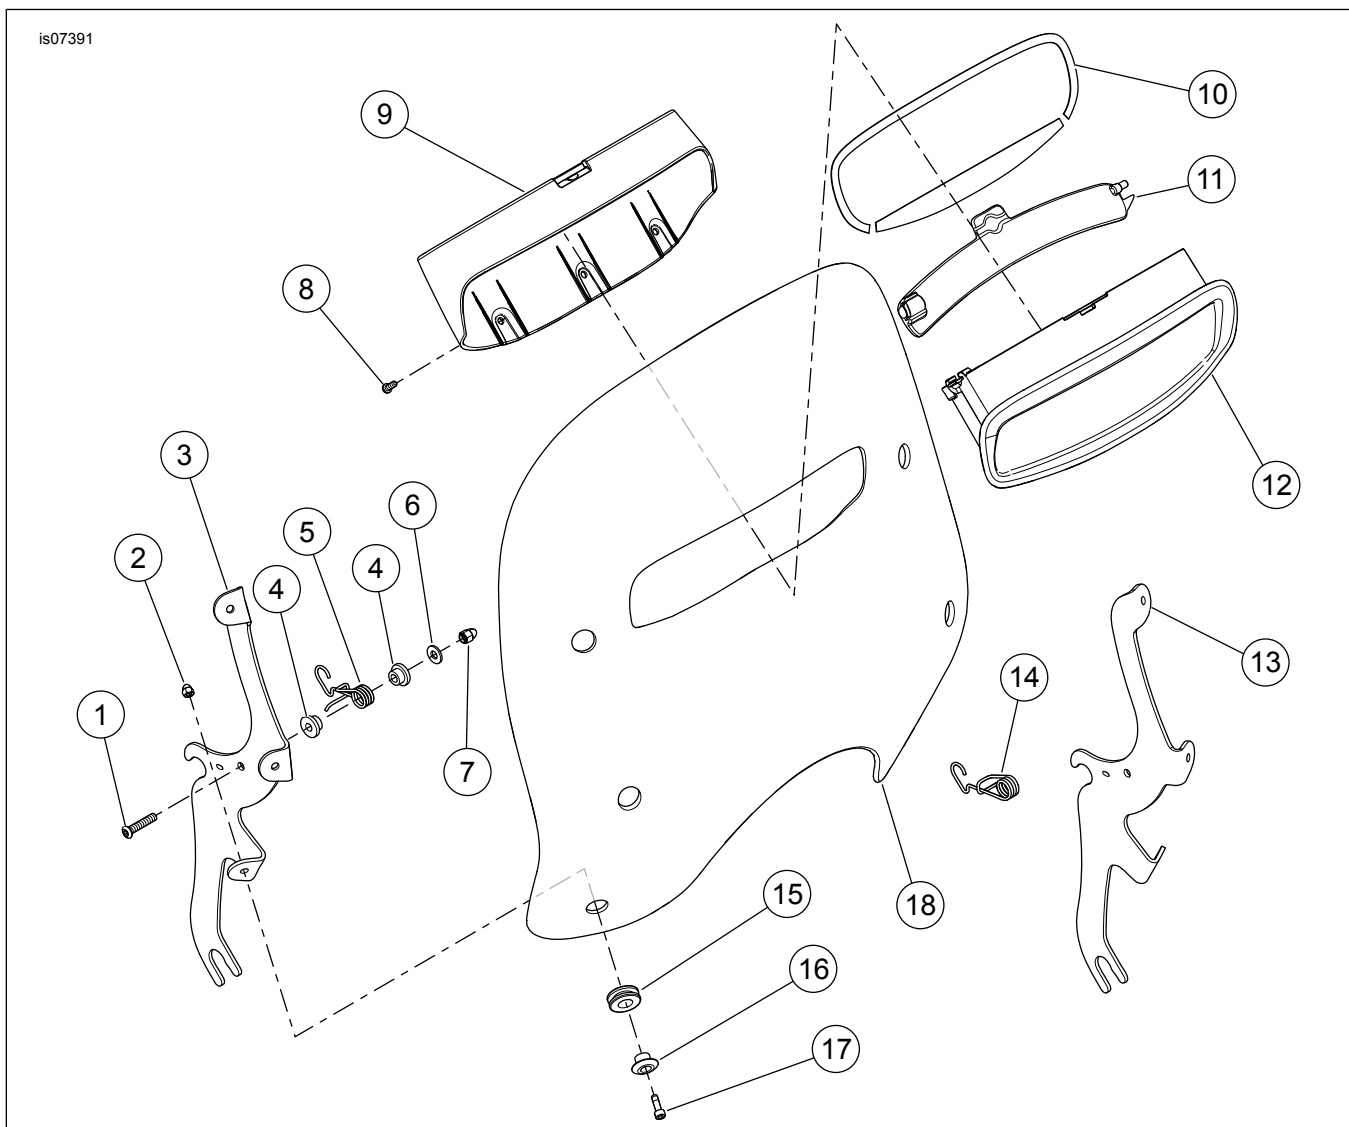
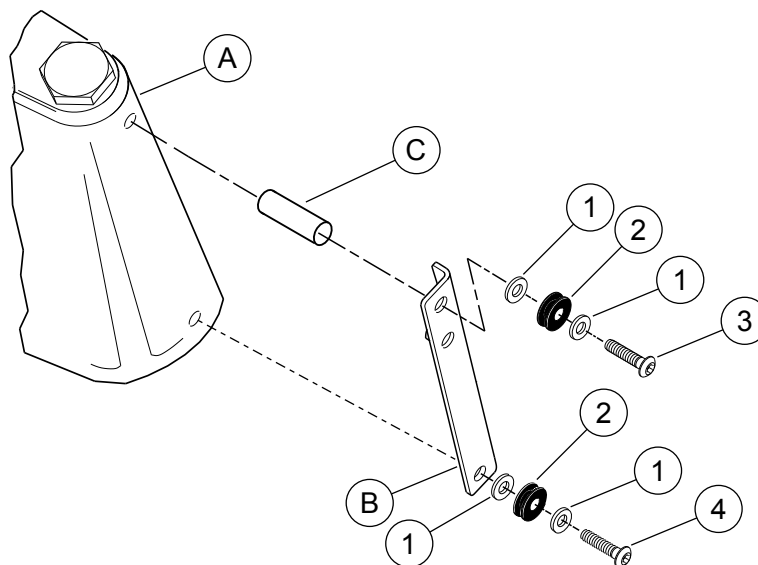

Figure 1. Service Parts: Vented Detachable Windshield
Figure 2. Service Parts: Hardware Kit
See Figure 1 and Table 1, Figure 2 and Table 2.
3. Figure 2 and Table 2. Remove and discard the original bottom fog/passing lamp bracket screw (4) and washer (1).
4. Place a new flat washer (1), bushing (2) and flat washer (1) on a 1-3/8 inch long screw (4) from the kit. Thread the screw through the lower hole in the fog/ passing lamp bracket and decorative fork cover, and into the triple clamp. Tighten the screw to 10.8 N·m (8 ft-lbs).
6. Place a flat washer (1), bushing (2), and flat washer (1), on a screw (3) from the kit. Place the screw through the top hole of the fog/passing lamp bracket and through the spacer. Tighten screws to 10.8 N·m (8 ft-lbs).